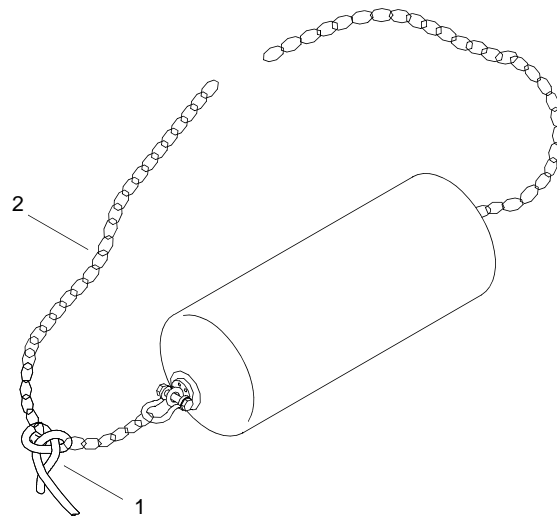

Figure 19. Tag Lines on Anchor Chains
13. Attach tag lines (figure 19, item 1) to ends of securing chains (figure 19, item 2).
16. Attach tag lines (figure 19, item 1) to ends of securing chains (figure 19, item 2).